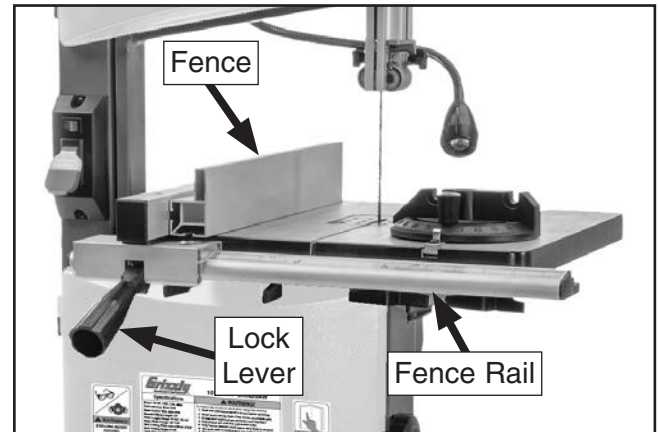

Figure 18. Fence installed on fence rail.
13. Install fence on fence rail, as shown in **Figure 18**.
Note: Fence lock lever (see **Figure 18**) needs to be in up position when fitting fence onto fence rail. Once fence snaps onto fence rail, push lock lever down to secure fence in position.